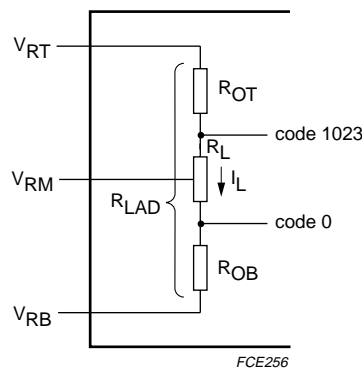

Fig.4 Explanation of note 4.
- In order to ensure the optimum linearity performance of such converter architecture the lower and upper extremities of the converter reference resistor ladder (corresponding to output codes 0 and 1023 respectively) are connected to pins  $V_{\text{RB}}$  and  $V_{\text{RT}}$  via offset resistors  $R_{\text{OB}}$  and  $R_{\text{OT}}$  as shown in Fig.4.